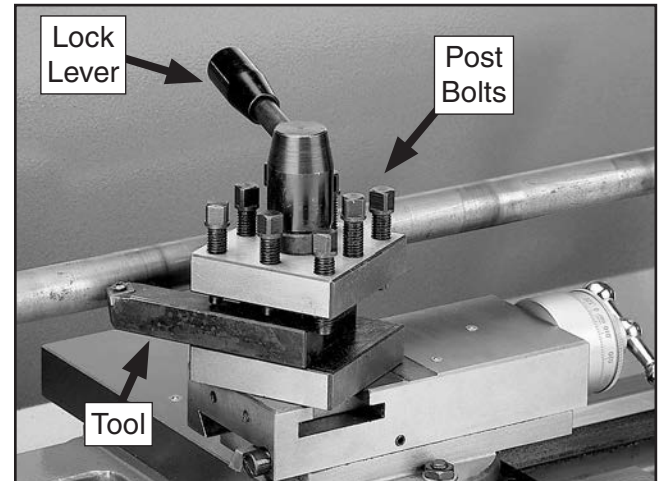

Figure 47. 4-way tool post with tool mounted.
1. Loosen the tool post bolts until the tool fits underneath the bolts, as shown in **Figure 47**.